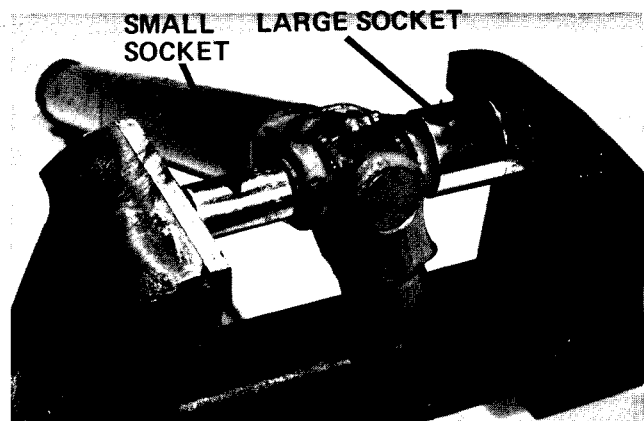

Figure 22
5. The vise may now be used as a press by placing a small socket against one roller and a large socket against the yoke on the opposite side. As the vise is closed, the small socket will force the cross to push the opposite roller part way into the large socket (Fig. 22).